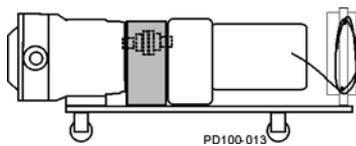
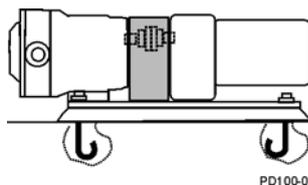

Figure 4 - Portable Base
Figure 7 - Permanent Installation on Foundation
In a typical installation configuration, the pump and drive unit are mounted on a common base plate. The unit can be installed in any of the arrangements shown in Figure 4 through Figure 7 (the shaded area indicates the guard location).
**NOTE:** When installing unit as shown in Figure 7, level the unit before installing the bolts.